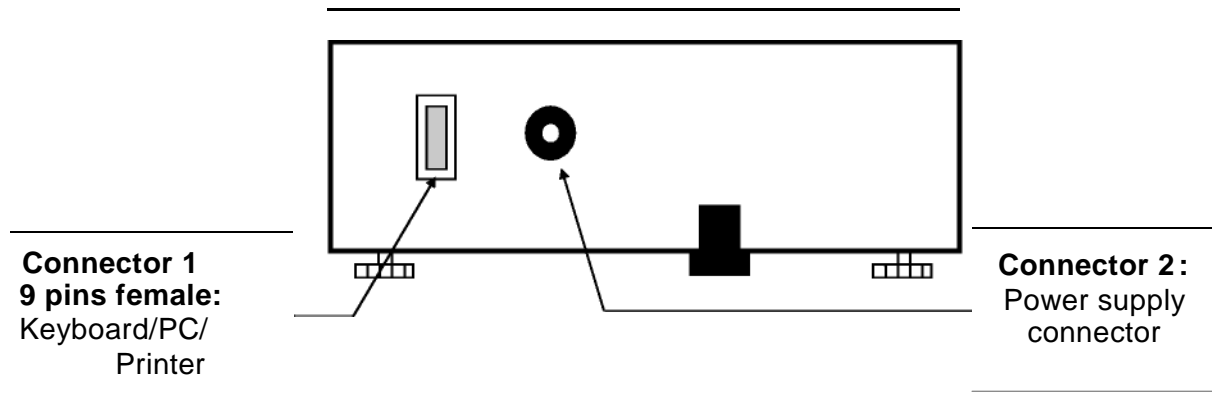

Fig. 1 Rear of the balance
Selecting the transmission to PC (personal computer IBM compatible), it is achieved a continuous transmission output, at the same rate of weight update on display of the balance. It is possible to perform all the functions of the balances directly from the computer keyboard, transmitting to the balance the ASCII codes as in the table below. The connector to use for connection to PC is the number 1 (fig.1 pag.49).
3. Selecting the transmission to PC at user command, it is achieved a transmission output only when the **PRINT** button is pressed, also in this case it is possible to perform all the functions of the balance directly from the keyboard of the computer, sending to the balance the ASCII codes in the table above. The connector to use for connection to PC is the number 1 (fig.1 pag. 49).
To receive/transmit data, connect the connector 1 (fig.1 pag. 49) of the balance to the serial port of the PC as shown below:
The connector to be used for the connection is the number 1 (fig.1 pag.46)